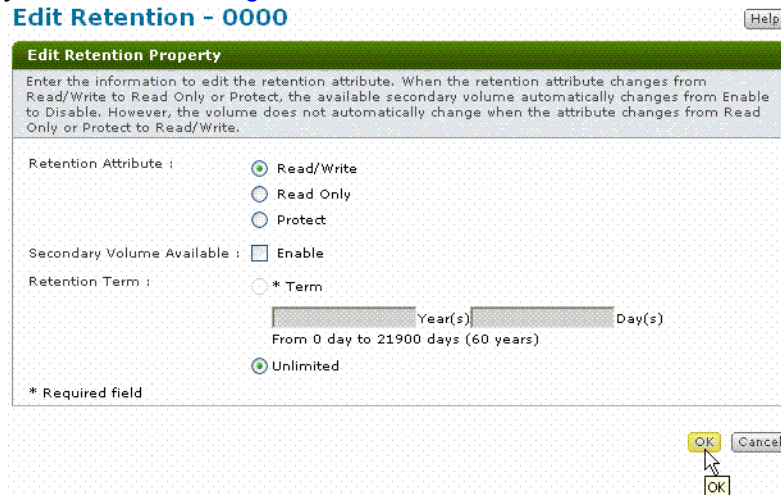

Figure 5-27: Edit Retention dialog box
1. Select a volume, and click **Edit Retention**. The Edit Retention screen displays as shown in Figure 5-27.